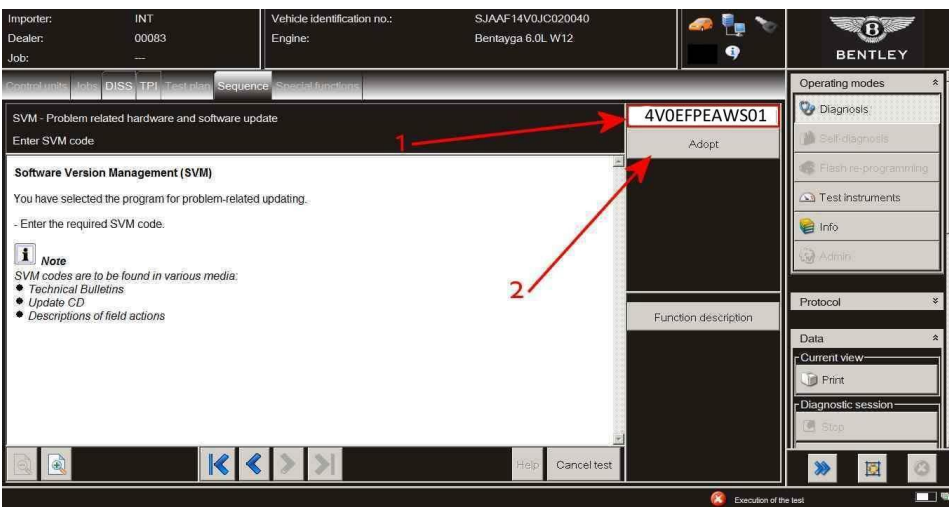

Figure 3
5) Referring to Figure 3– At the SVM screen (1) enter the specific SVM code 4V0EFPEAWS01 and then select Adopt (2)